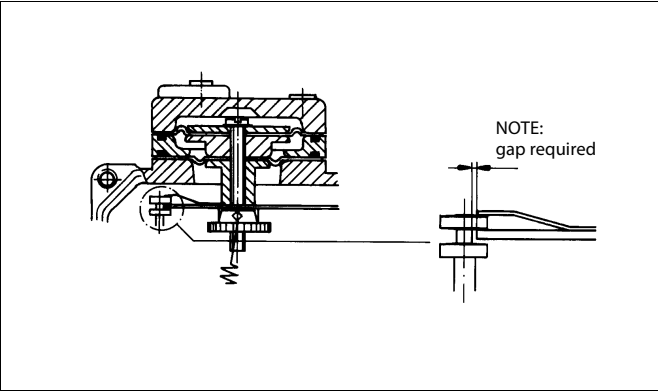

Fig. 15 Replacement of diaphragms
Table 4 shows the shift on the circumference of the cam equal to the "dead angle" of the valve, Figure 15, in various cam segments (C, E, D).
1. Mark the shift in question on the edge of the cam, Fig. 15 and Table 4. Dimensions do not have to be measured if the dead angle can be reliably noticed from position of the closing member.
2. Lock the cam so that the roller touches the edge of the cam plate at the mark. Tighten the locking wheel (30) and the screw (31).
3. Switch on the supply pressure (S) and the input signal (+/-). Note the correct polarity.